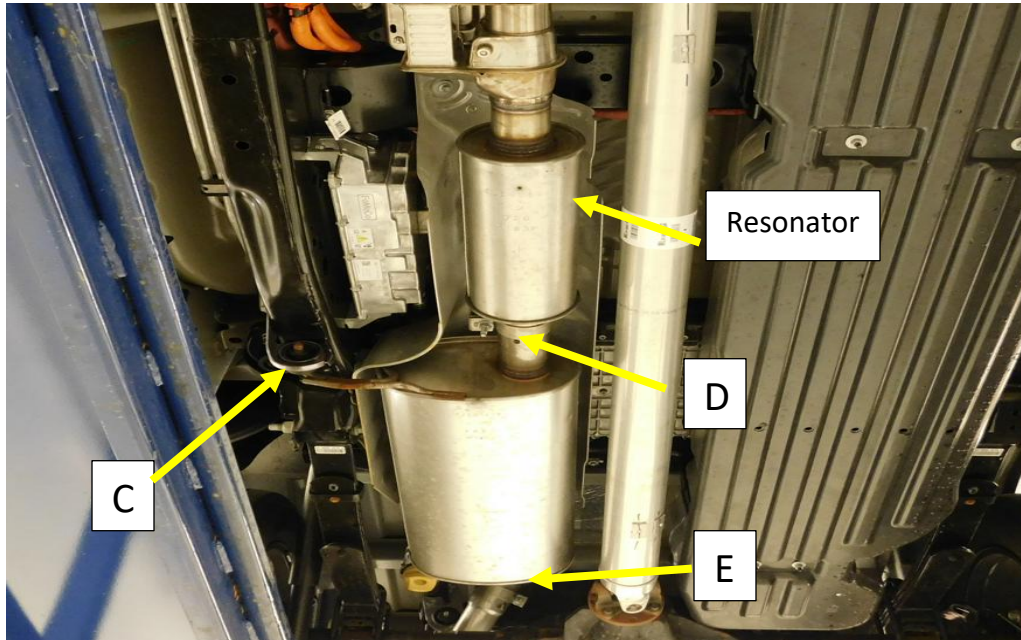

Figure.2
7. Loosen the 15mm nut on the Band clamp between the resonator and the muffler (D). **Fig.2/3**